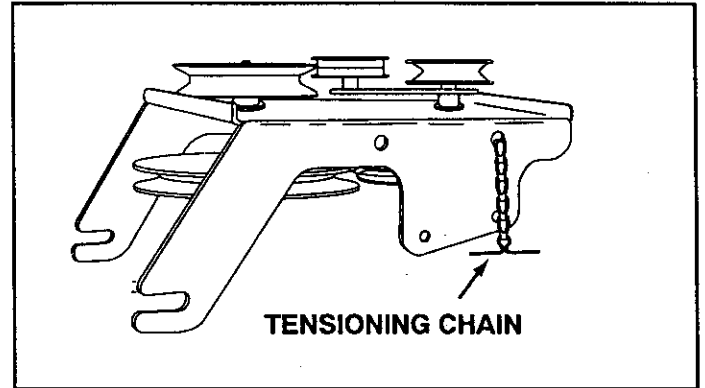

FIGURE 12
- Turn the clutch/idler assembly upside down and place the extra tensioning chain through the left front hole as shown in figure 12.